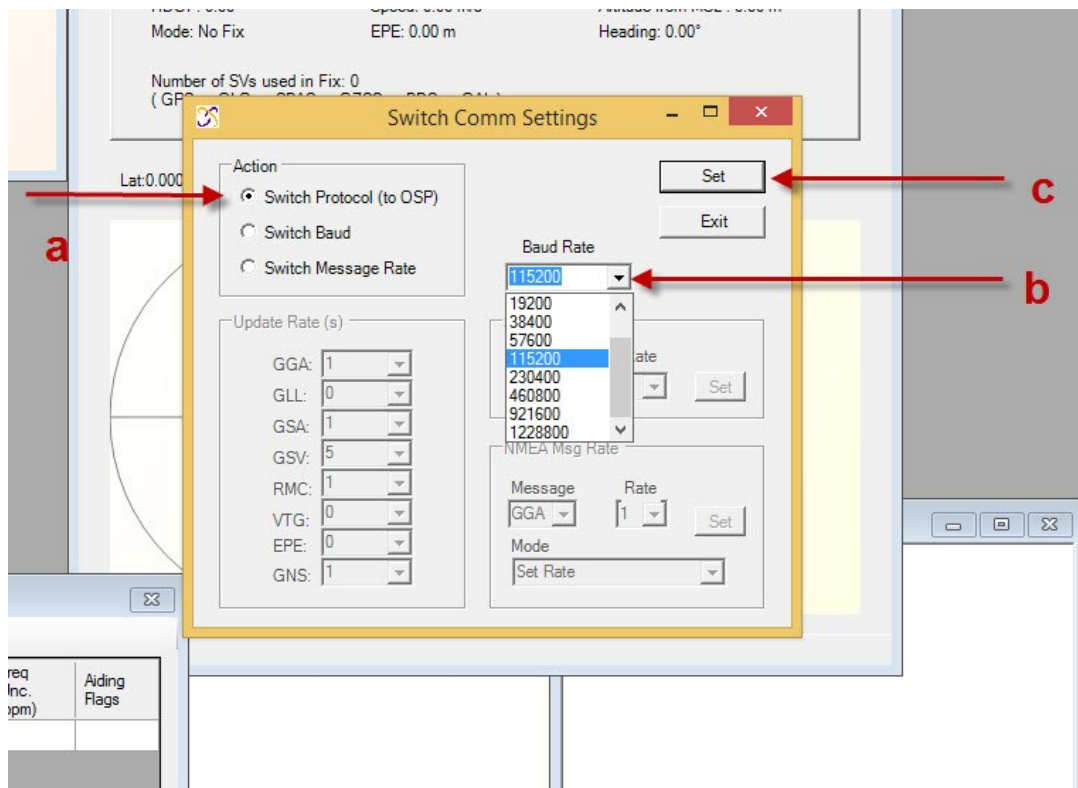

Figure 3 – Switching Comm Settings – Protocol
2. A “Switch Comm Settings” window will appear (See figure 3)